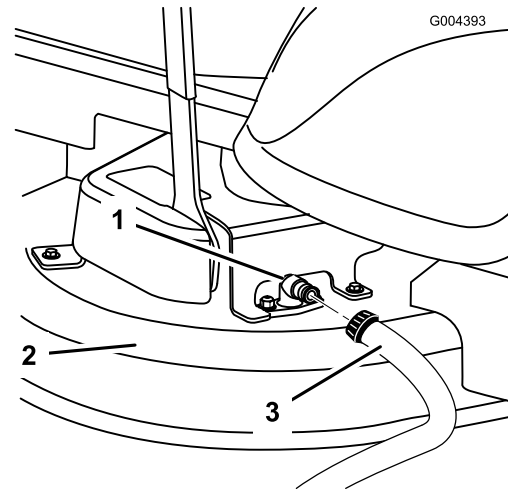

Figure 59
3. Attach the hose to the end of the mower washout fitting, and turn the water on high (Figure 59).